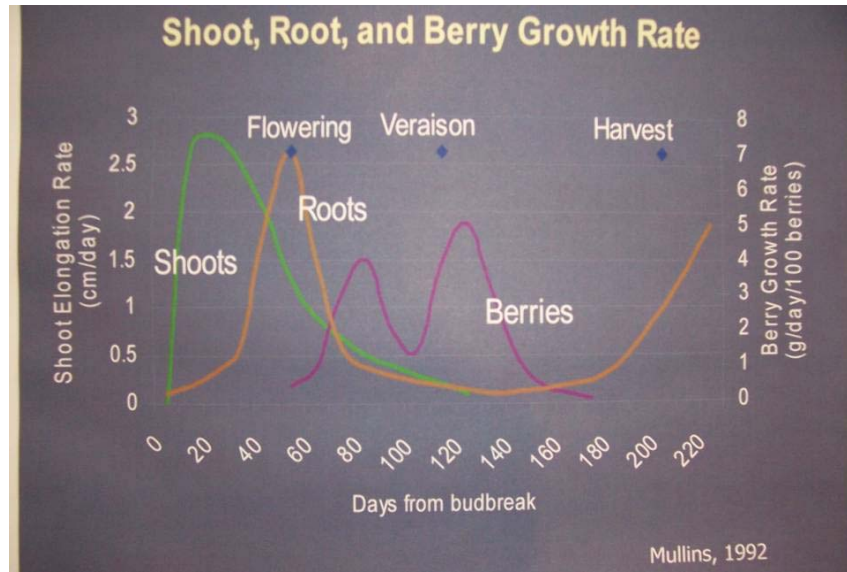

Figure 3. Growth by plant part and date (Prichard et al, 2004)
1. Stress at different times of the season will impact different aspects of vine/berry growth, as seen in **Figure 3**.
2. **Figure 3** shows that vegetative control should ideally be accomplished prior to veraison by inducing water stress. It can be difficult to accomplish this stress on heavy, deep soils because there is so much rainwater stored in the soil. As a result, in many areas with low ET rates and a small percent canopy cover, irrigation does not begin until veraison.